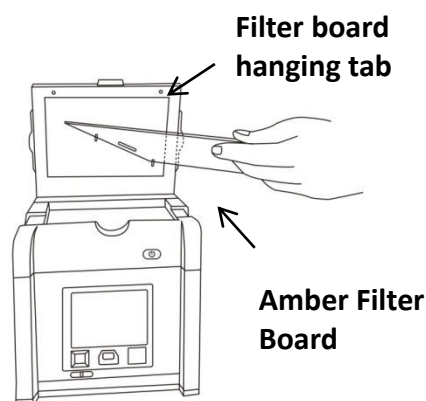

Figure 8
3. Position the amber filter board with the hole for hanging on lid in front (**Figure 8**).